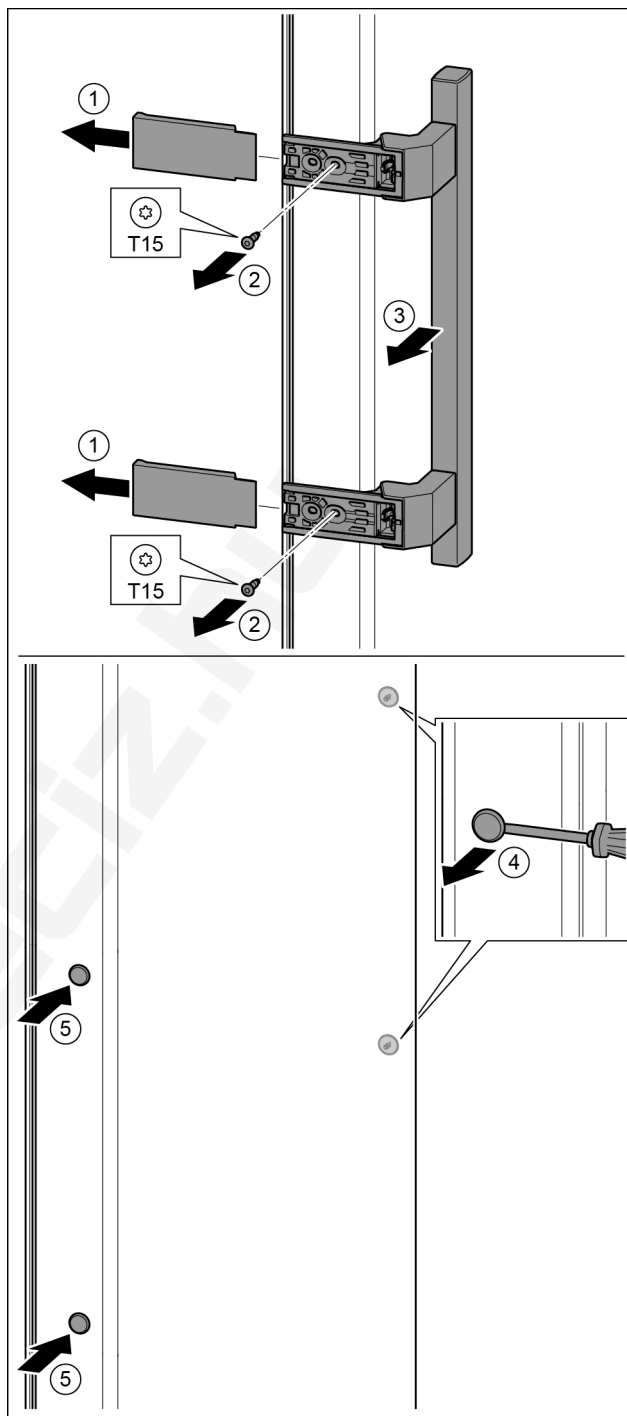

Fig. 36
- ▶ Pull off the cover. Fig. 36 (1)
- ▶ Remove the screws with the T15 screwdriver. Fig. 36 (2)
- ▶ Remove the handle. Fig. 36 (3)
- ▶ Carefully lift up the side plugs with a slotted screwdriver and pull them out. Fig. 36 (4)
- ▶ Insert the plugs again on the other side. Fig. 36 (5)